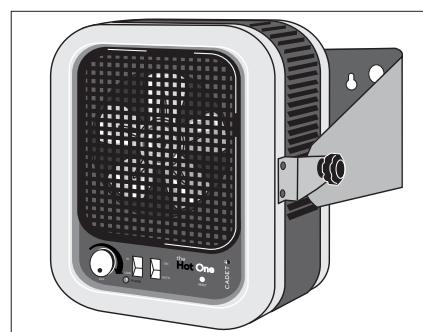

Figure 3
5. Heater must be kept clear of all obstructions: 3 foot minimum clearance from front, 6 inch minimum clearance from back and top, and 12 inch minimum clearance from sides. See Figure 3.
2. Mount stand in desired position on wall (See Figure 3). The wall and mounting hardware must be of adequate strength to support the heater.